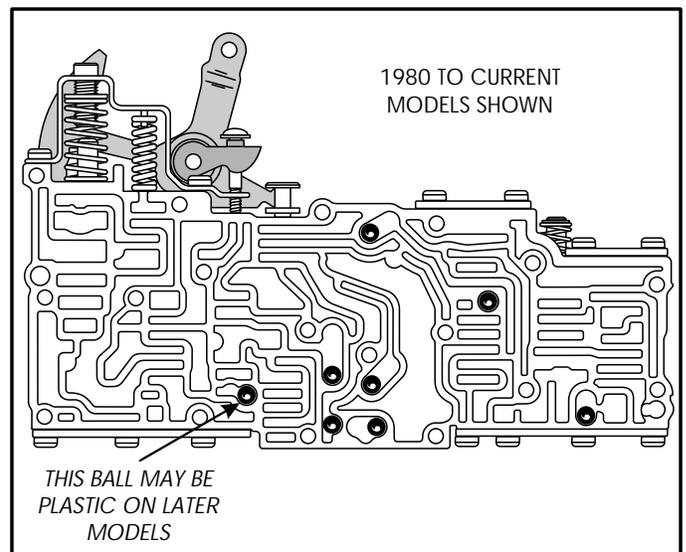

Figure 93
4. Remove the checkballs from the valve body cavities, as shown in Figure 93.
Note: *There are two different checkball configurations. Shown in Figure 93 is the 1980 to current version.*